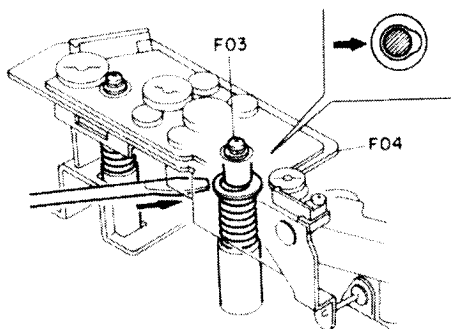

Fig. 2.9.3
- (b) Install F04 (Head Mount Base Ass'y) and fasten F03 (2 pcs.). Push the Plate Washers with a blade of the screwdriver so that the Plate Washers come off the grooves. See Fig. 2.9.3.